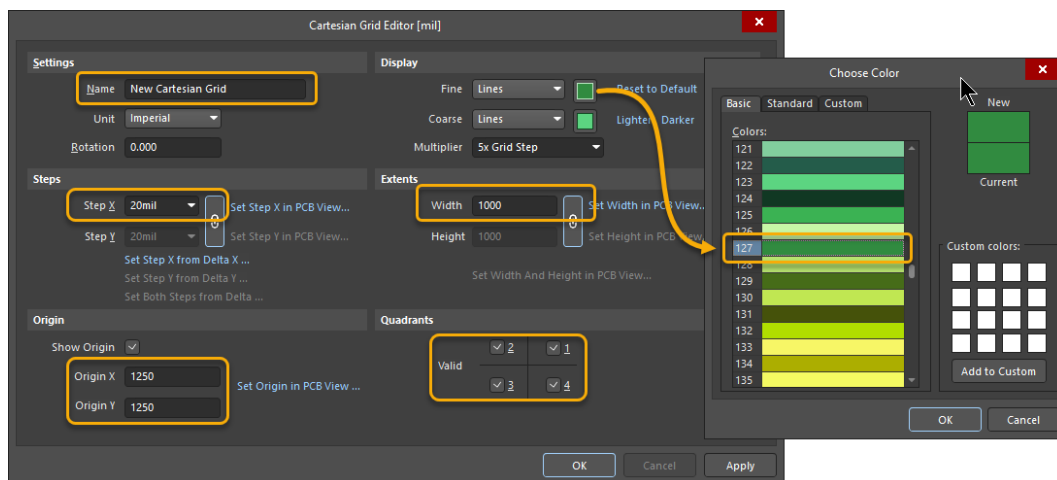

Figure 6. Cartesian Grid Editor
23. Double click on the *New Cartesian Grid* name to open the *Grid Editor* dialog, Figure 6.
24. Edit the values for each section to match those shown in Figure 6. The *Fine* color is set to 127 while *Coarse* color is set to 123.